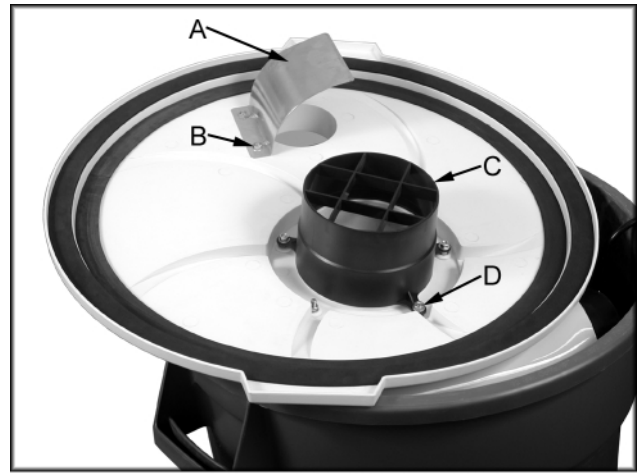

Fig. 1
1. Attach the deflector (A, Fig. 1) to the plastic cover using two hex cap screws, four flat washers and two hex nuts (B, Fig. 1). Tighten the hardware.
2. Attach the impeller guard (C, Fig. 1) to the plastic cover with three flat washers and three hex nuts (D, Fig. 1). Tighten the hardware